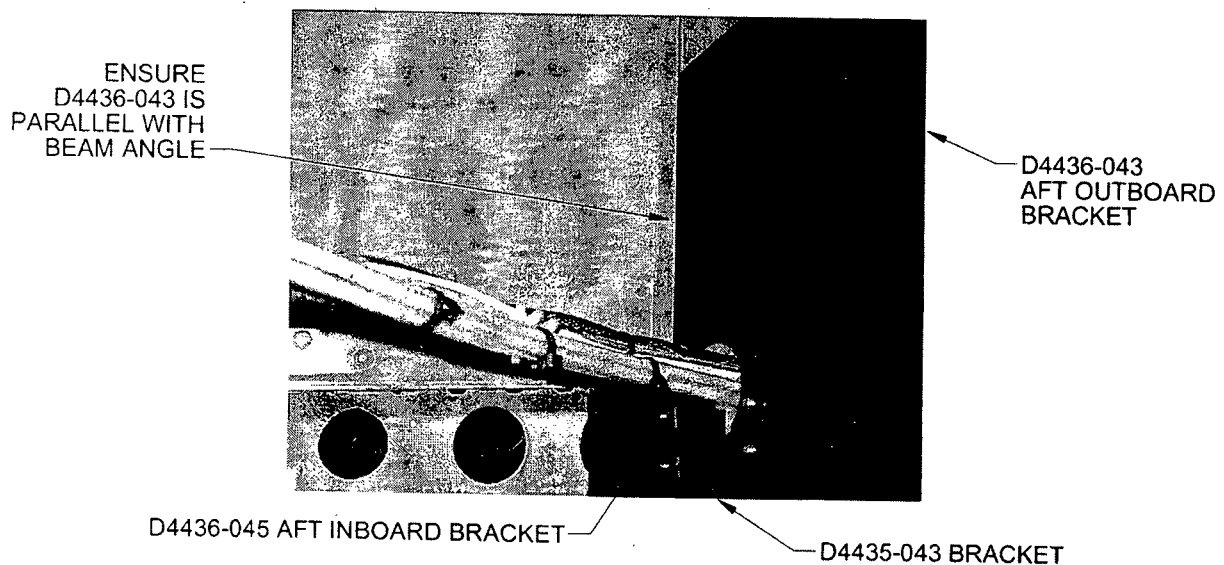

Figure 4. D4436-043 & D4435-043 Brackets Installation
- Confirm that the D4436-043 Aft Outboard Bracket and beam angle are parallel as shown in Figure 4.